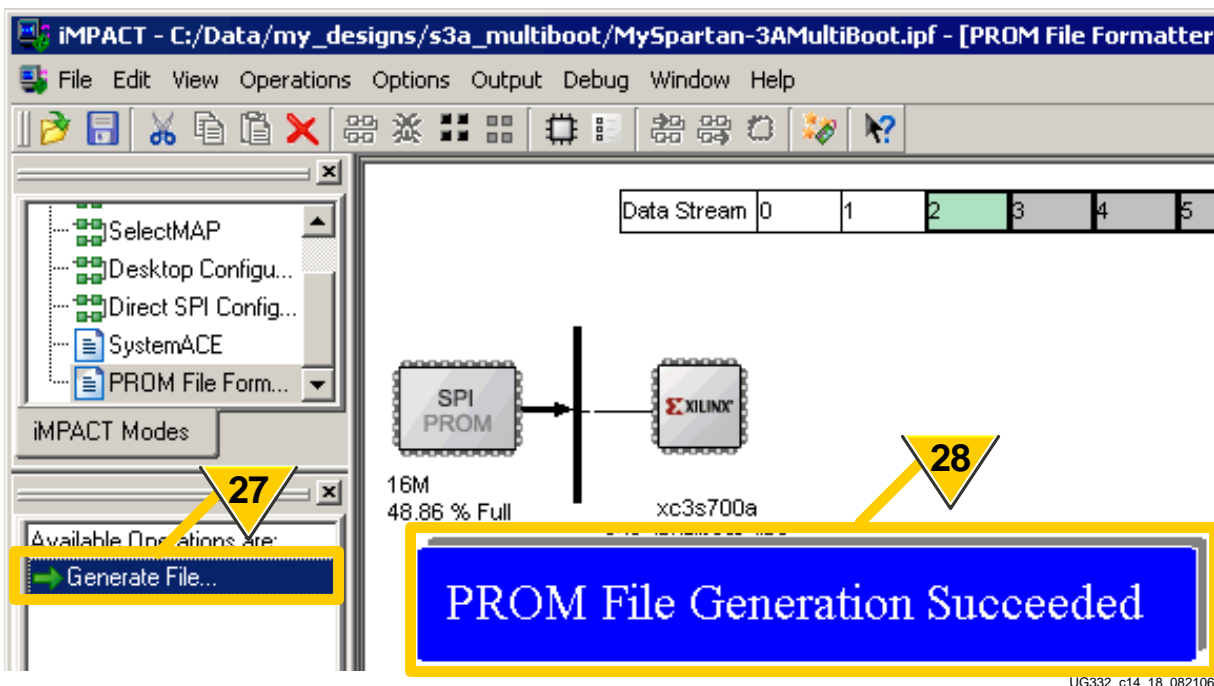

Figure 14-19: Generate the PROM File Using the Specified Parameters
27. As shown in Figure 14-19, the iMPACT software reports how much of the PROM is consumed by the FPGA configuration bitstream files. Double-click **Generate File**.